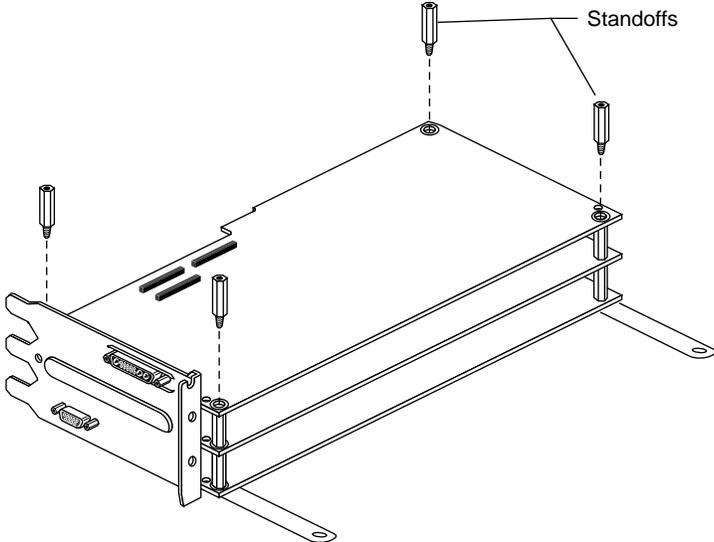

Figure 2-16 Installing the Standoffs
- 4. Install the four standoffs (male-female) in the same corner screw holes from which you removed the screws (Figure 2-16)